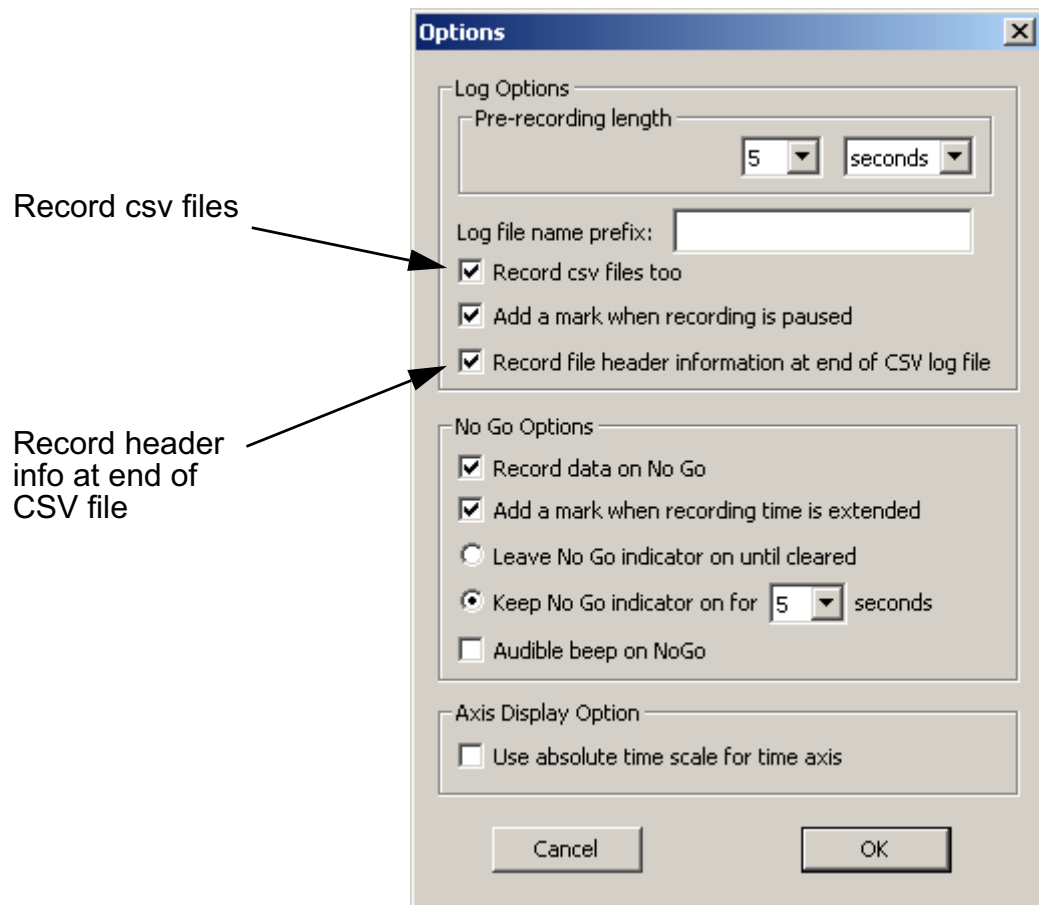

Figure 3.18: Recording Comma-Delimited Files
1. Choose the menu item **Settings > Options**. The options dialog is displayed (see Figure 3.18).